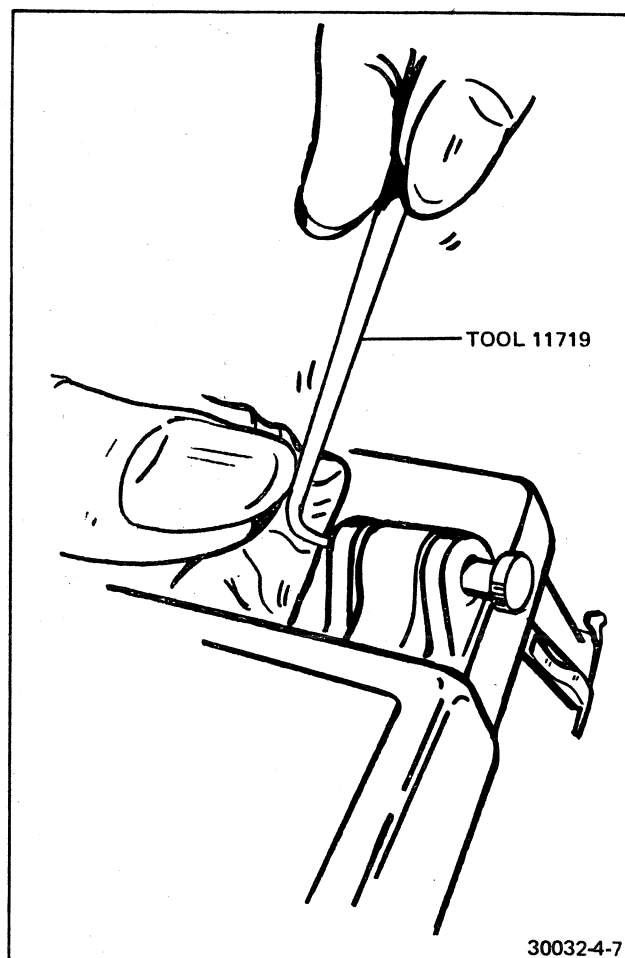

FIGURE 4-7 REMOVING MIRROR COVER/INNER FRAME HINGE PINS
12. Using Special Tool #11719, remove the mirror-cover-to-inner-frame hinge pins (Figure 4-7).